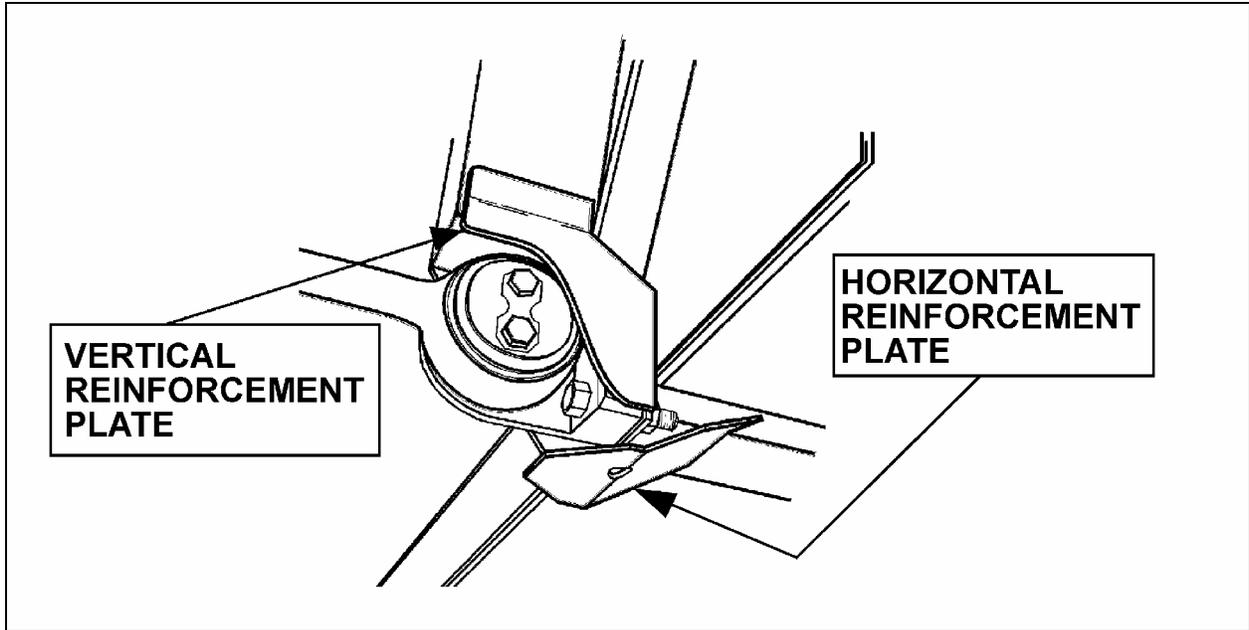

FIGURE 1: RADIUS ROD SUPPORT
8. Remove radius rod support (2) (refer to fig. 1). The two bolts located inside the baggage compartment must be removed.